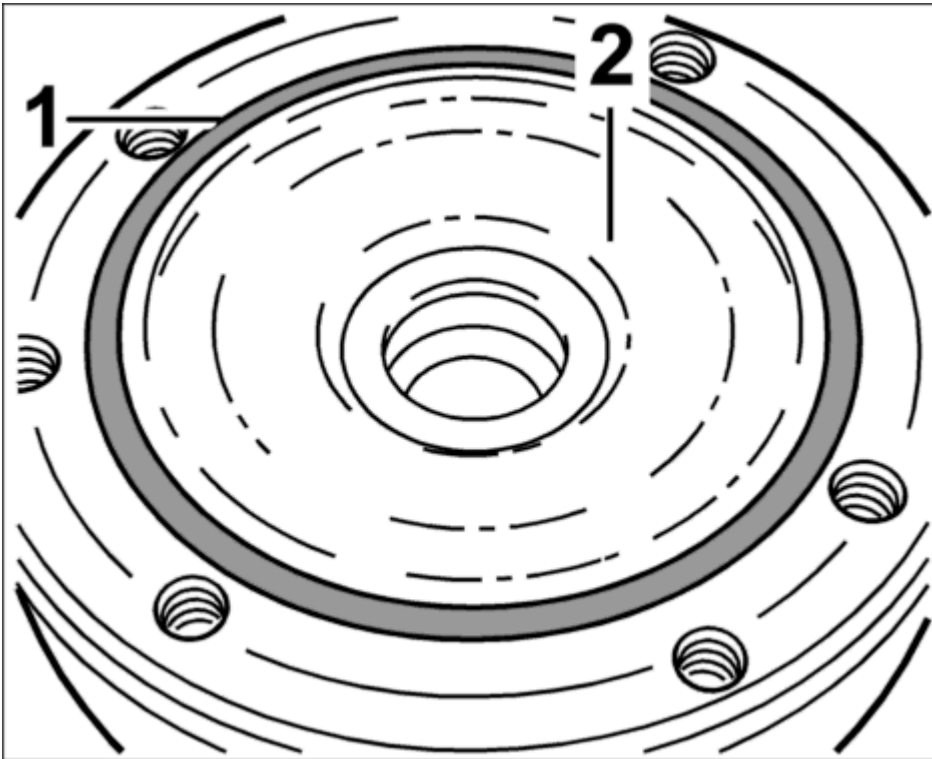

Fig. 45: Sealing ring
5. Clean the surfaces -2- on the mounting saddle and on the air spring with a lint-free cloth. Replace sealing ring -1- on the air spring. See **Fig. 45**.